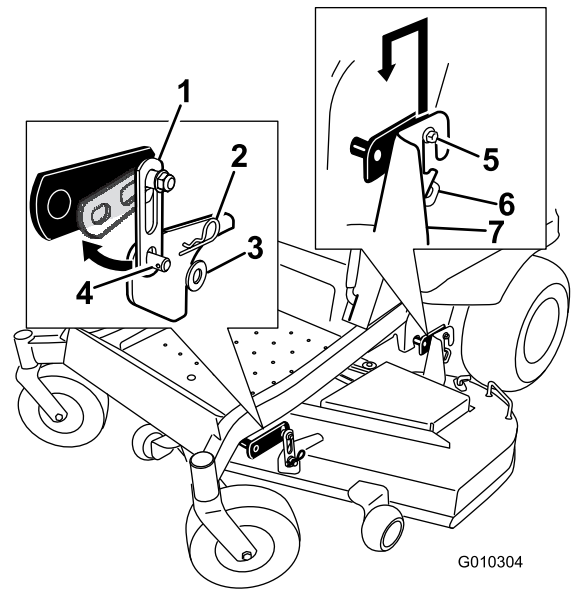

Figure 63
2. Remove the hardware from the front deck hangers on both sides of the deck (Figure 63).
3. Carefully lift the deck off the rear hanger bolts and lower the front of the mower deck to the ground (Figure 63).